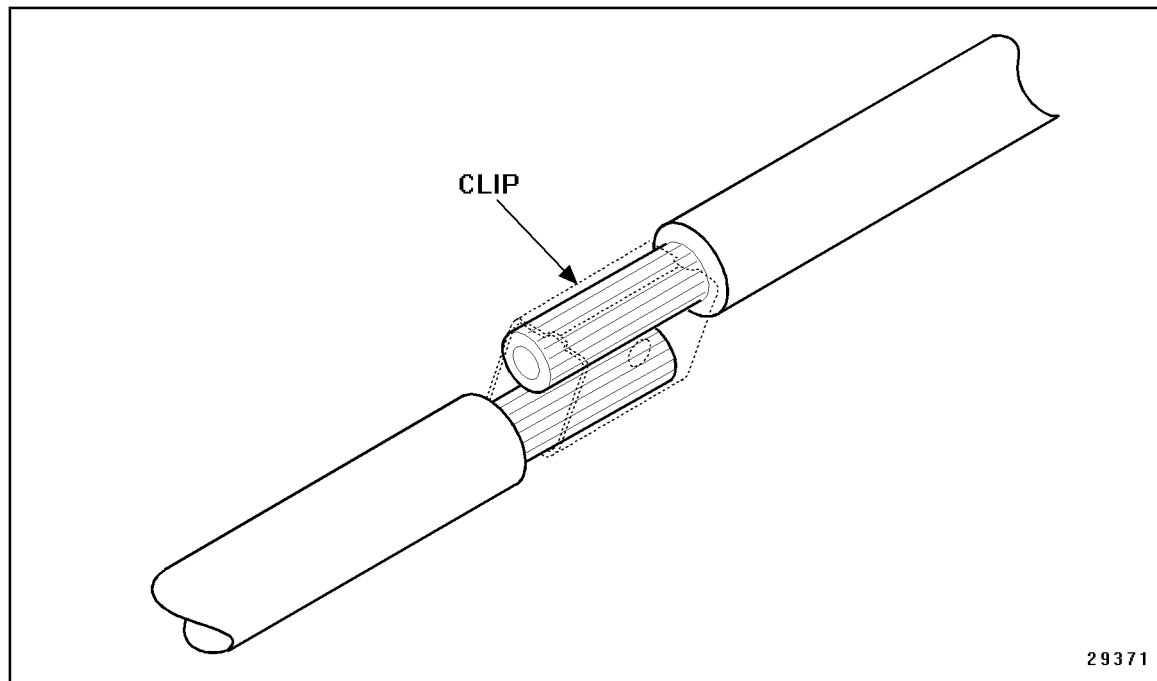

Figure 2-23 Securing the Leads With a Clip
2. Secure the leads with a commercially available clip and hand tool. See Figure 2-23.